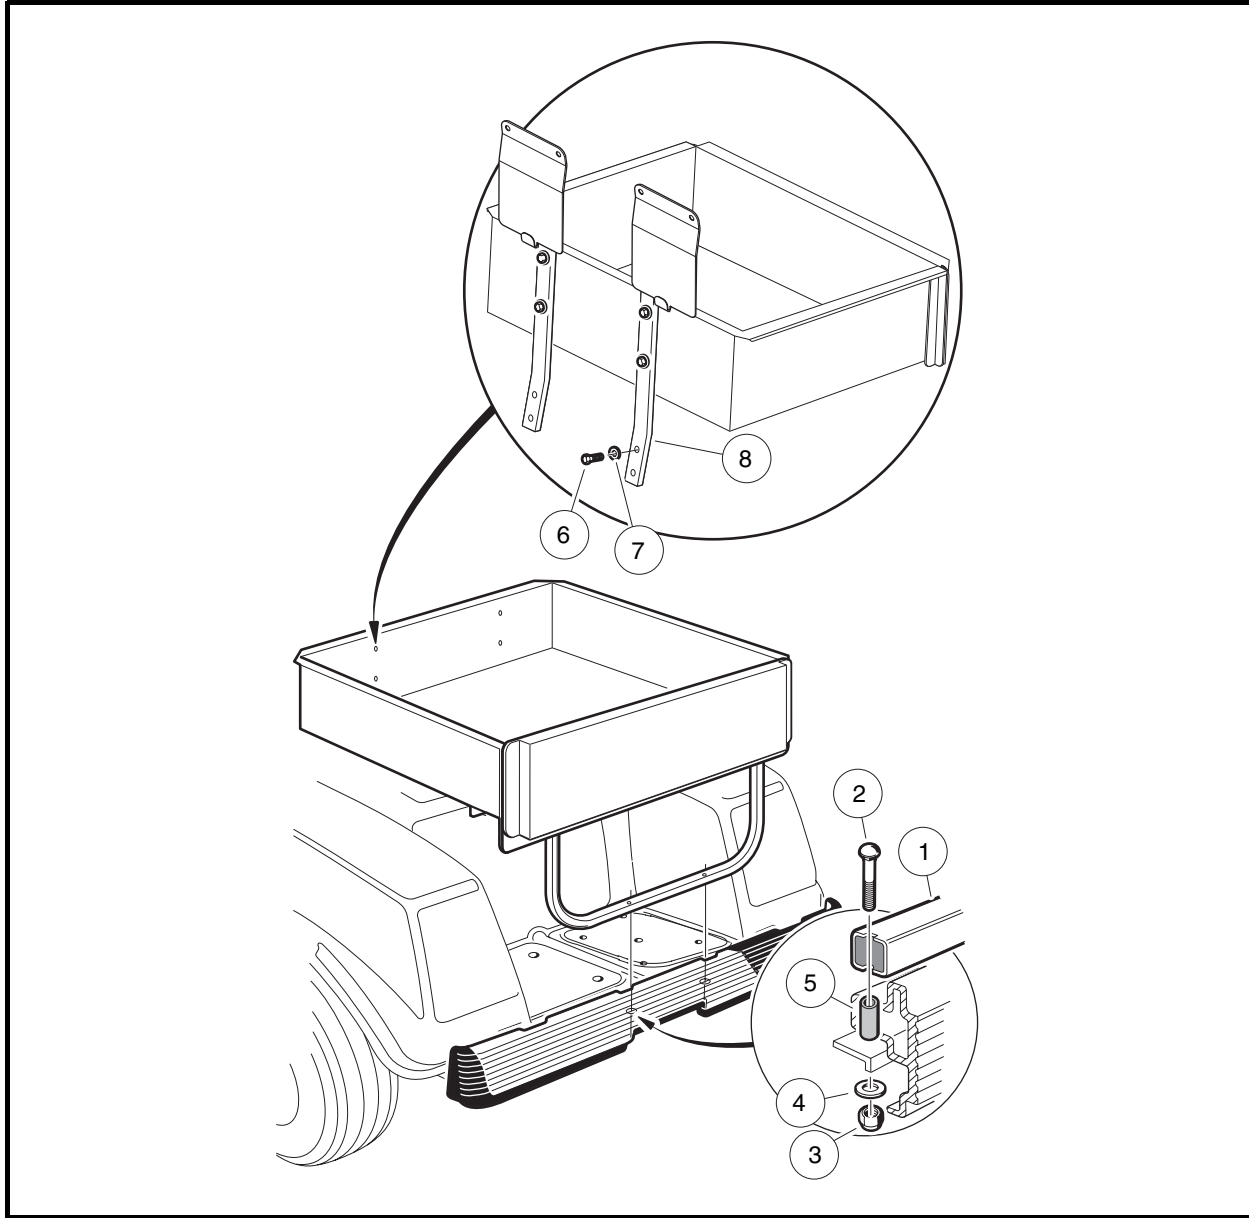

Figure 4-21 Cargo Bed – 850
- 9.2. Remove the two bolts (2), nuts (3), flat washers (4) and spacers (5) that attach the cargo bed support (1) to the body (**Figure 4-21, Page 4-18**).
- 1.10. Tighten the bolts (6) attaching the seat back supports (8) to the chassis to 156 in-lb (17.6 N·m) (**Figure 4-21, Page 4-18**).